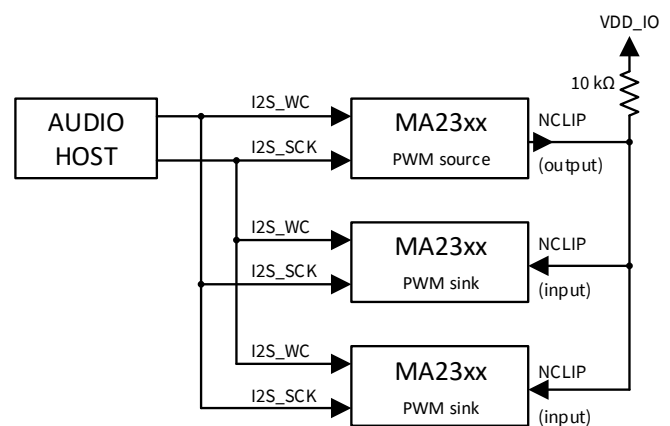

Figure 11.23: PWM synchronization for multiple MA2304PNS devices
In multi-channel systems with multiple MA2304PNS devices, it can be increasingly necessary to suppress EMI. The NCLIP pin (12) can be used as an input/output to synchronize PWM signals of multiple devices and allow them to be driven out of phase which can have an influence on EMI performance. PWM sync is configured according to Figure 11.23 as follows: